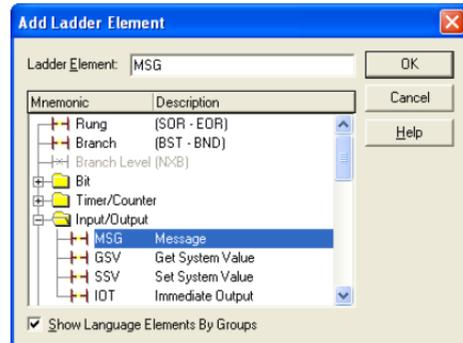

Figure 39: Adding a MSG Instruction
- d) Select the “MSG” instruction in the Input/Output folder. Refer to Figure 39.